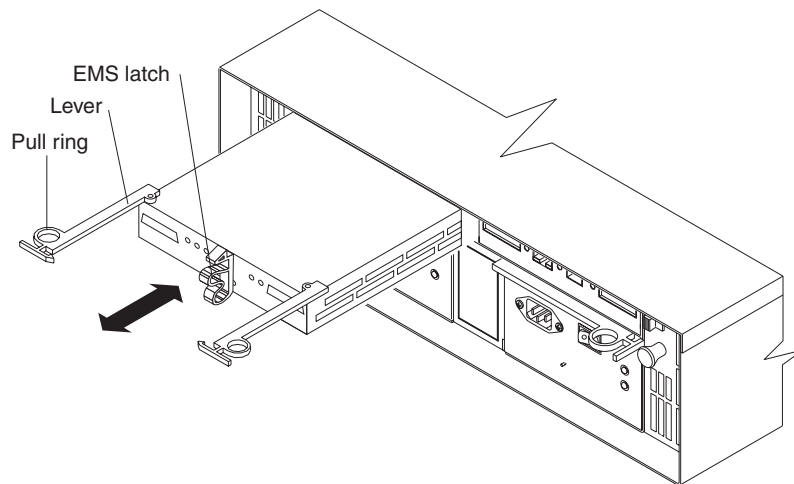

Figure 11. Replacing an ESM
1. Slide one ESM into the empty slot in the expansion unit. Be sure the levers are pulled straight out as you slide it in, as shown in Figure 11 on page 17.